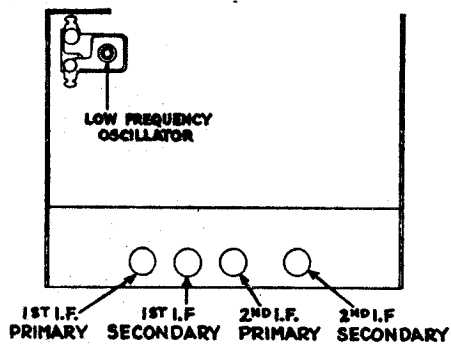

Fig. 1—Back of Model 54 Chassis, showing location of Compensating Condensers.
Refer to Figures 1 and 2
Fig. 1—Schematic Wiring Diagram. Numbers on this figure from ① to ⑥⑥ inclusive, are the same as in Fig. 3, Service Bulletin No. 172. The electric motor of Model 503 is of the self-starting, synchronous type, depending on the power line frequency (cycles) for its correct speed. If the motor should develop trouble, do not attempt to repair it. Replace it, and communicate with your Distributor with regard to the faulty one. The motor should be lubricated at least once every six months. To do this, take off the turntable and put a few drops of a good grade of light machine oil in the oil-hole in the motor topplate.